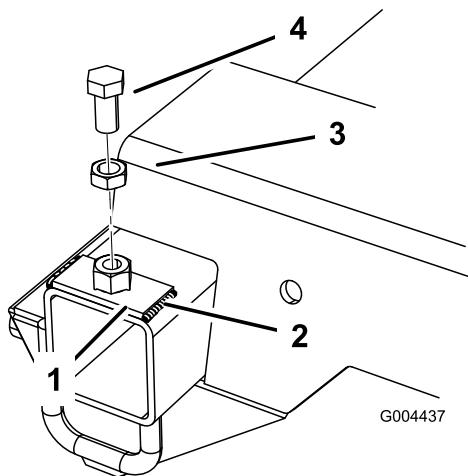

Figure 5
4. Weld the new plate to the frame with a 1/4 inch fillet on the left and right sides of the plate (Figure 5). After the bolt and jam nut have cooled, remove them.